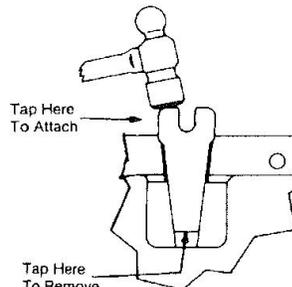

Figure 2 – Tap-in Mounting Feet
- Install detachable mounting feet while enclosure is on the floor or work bench (see Figure 2).
- Insert four (4) wedge shaped mounting feet into dovetail slots in enclosure body.
- Two (2) steel lifting plates are included to provide a means for mechanical lifting. Each steel plate is attached to the top side of the body and cover flange with two (2) 5/16" stainless steel bolts.